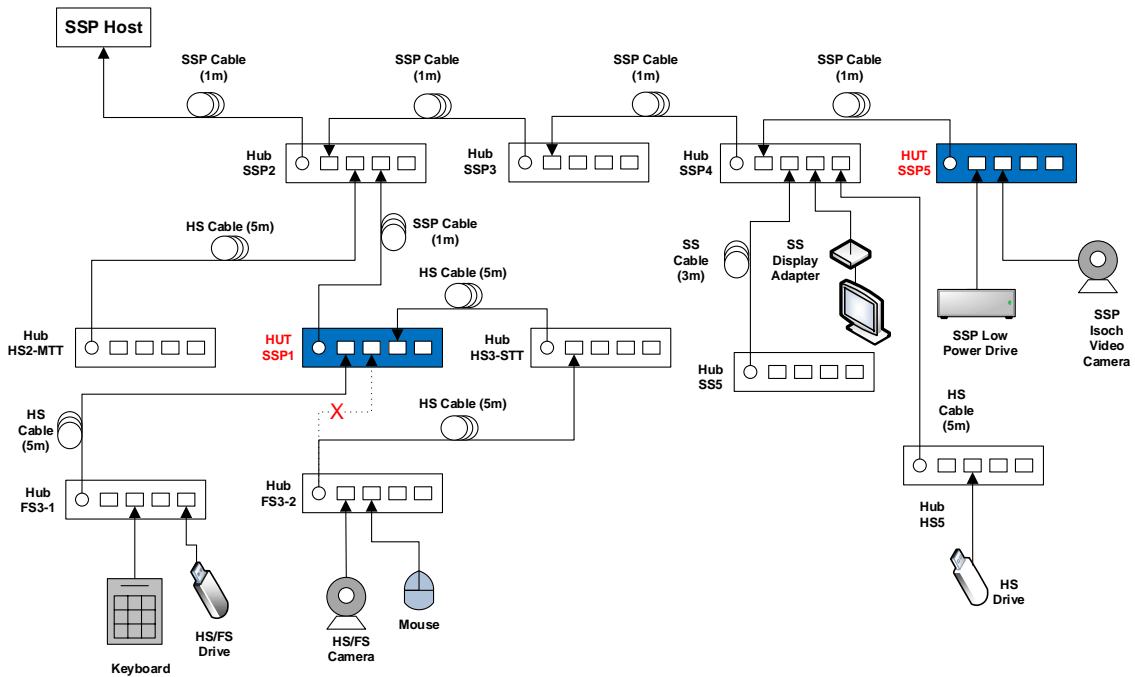

Figure 3-5: Topology Change 1 - Single-TT Hubs Only
- Detach Hub FS3-2 from port 2 on the Hub Under Test and attach the Hub FS3-2 to port 1 on Hub HS3-S TT. This should set the configuration to what is displayed in Figure 3-5 and Figure 3-6.